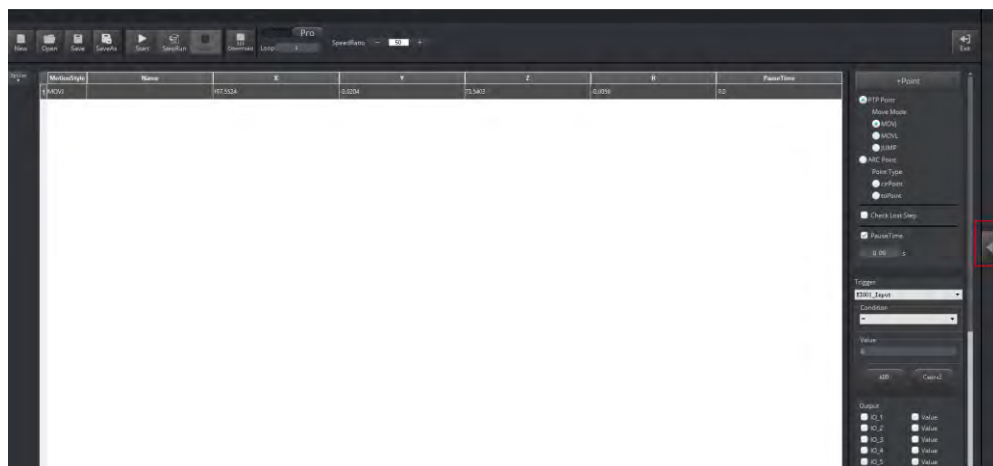

Figure 5.19 Display the Operation Panel
2. Click the icon to display the **Operation Panel**, as shown in Figure 5.19.